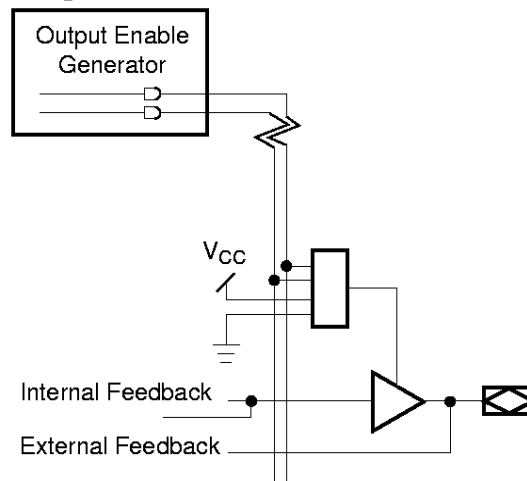

Figure 6. Output Enable Generator and I/O Cell
There is one output enable (OE) generator per PALblock that generates two product-term driven output enables. Each I/O cell is simply an output buffer. Each macrocell within the PALblock can choose to be permanently enabled, permanently disabled, or choose one of the two product term output enables per PAL block (Figure 6).